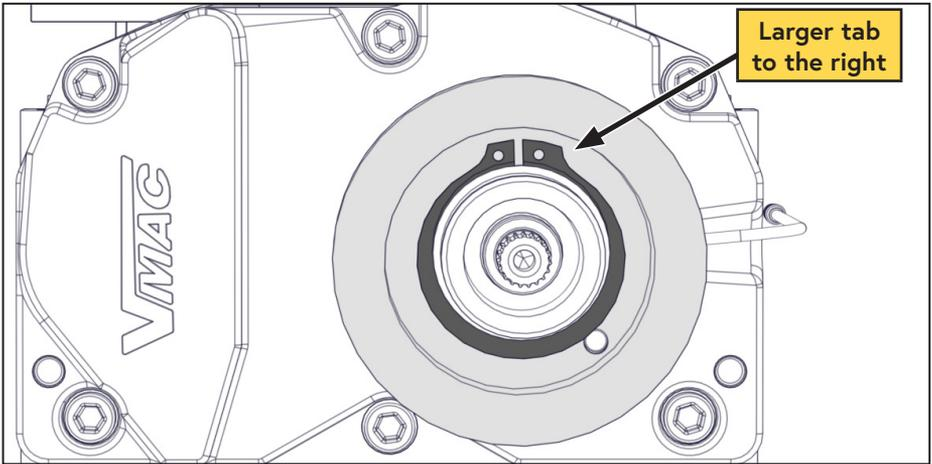

Figure 9 — Install lower snap ring
- Install the lower (larger) snap ring with the opening at the 12 o'clock position and the larger tab to the right (Figure 9).